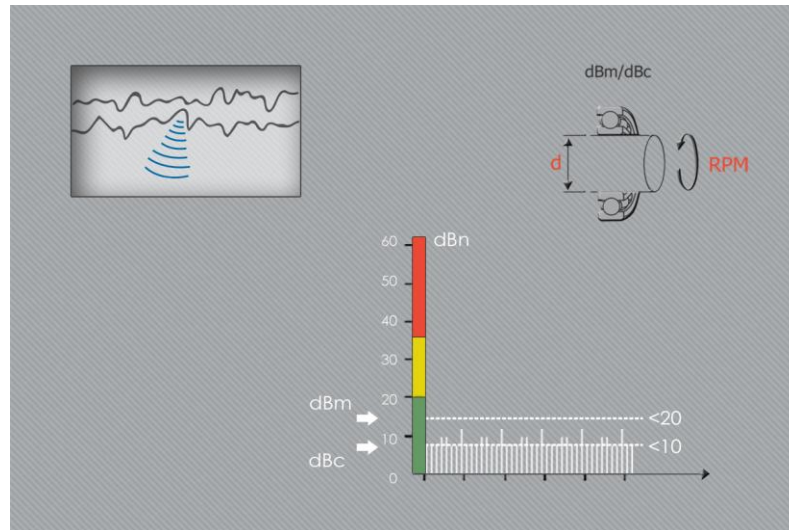

Figure 4-9. Bearing good condition.
a) Bearing good condition (Figure 4-9).